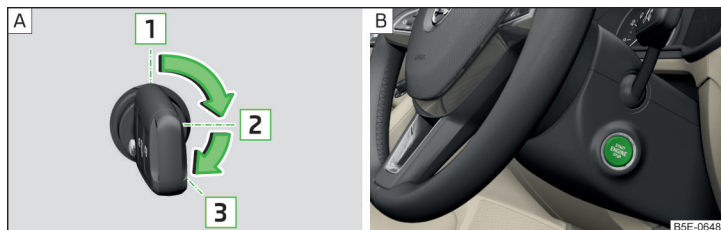

Fig. 227 Positions of the vehicle key in the ignition lock / starter button
Positions of the vehicle key in the ignition lock » Fig. 227 - [A]
» Press the » Fig. 227 - [B] button, the ignition is turned on / off.
» On vehicles with **Ignition lock**, turn the key to position **3** and the engine starts » Fig. 227 on page 198 [A]. Release the key, the engine will start automatically.
» On vehicles with **starter button**, press the button briefly » Fig. 227 on page 198 - [B], the motor will start automatically.
- » On vehicles with **ignition lock**, turn the key to position **1** » Fig. 227 on page 198 [A].
- » On vehicles with **starter button**, press the button » Fig. 227 on page 198 - [B], The engine and the ignition will be switched off simultaneously.
» Keep the knob pressed » Fig. 227 on page 198 - [B] or press it twice within 1 second.